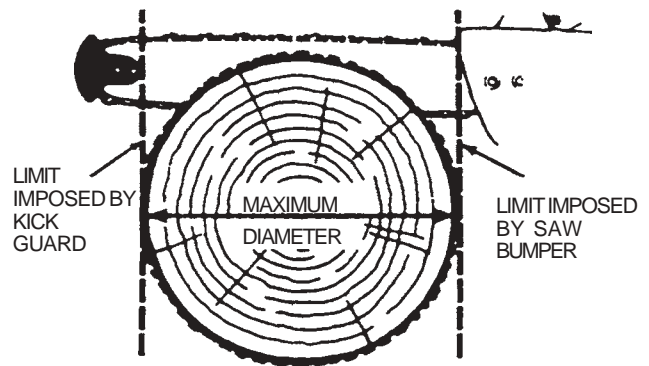

Fig. 2 - Maximum Diameter of Cut with Kick Guard Installed
1. Because the Kick Guard is wider than the saw chain and cannot go *into* or be pulled *through* a cut, it will obstruct cutting unless it clears the wood completely. Figure 2 illustrates the maximum diameter of wood which can be cut when the Kick Guard is on the saw. Always check that there is enough clearance. If in doubt that there is enough clearance remove the Kick Guard before making the cut.